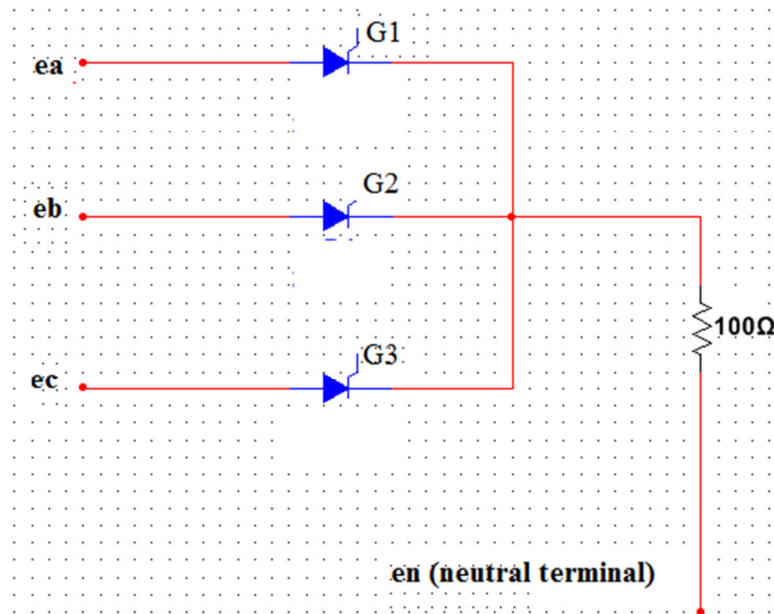

Figure 7.6: Three Phase Halfwave Controlled Rectifier
- Implement the rectifier circuit shown in Figure 7.6 on breadboard. Attach the anodes of